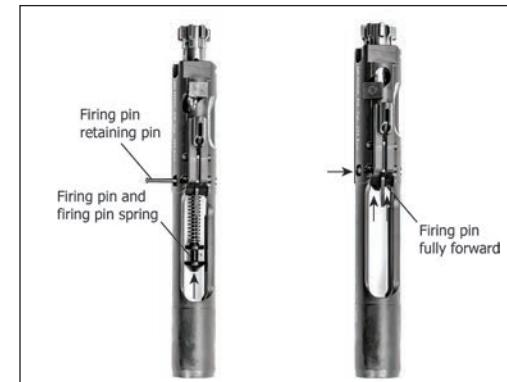

Fig. 36 – Firing Pin Retaining Pin Installation
e. Ensure that the firing pin retaining pin is properly installed by pivoting upwards on the firing pin safety while pushing backwards on the bolt head. The firing pin should be retained inside the bolt carrier (Fig. 36).